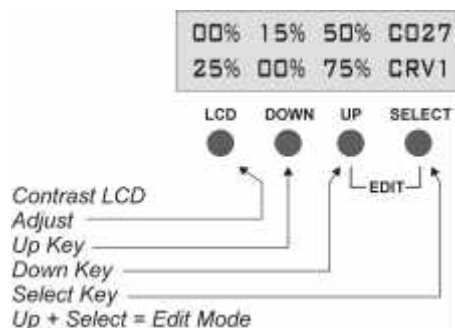

Fig.1
Fig.1 (representing a 6 channel unit: LTB62 or LTB63 – LTB35 should have a similar display but information will regard only to 3 channels) shows how control panel looks like, when in normal display, and after receiving DMX data for channels 27 to 32. “C027” (right side, upper corner), indicates that selected DMX channel is 27, and “CRV1” (right side, lower corner), indicates the unit has dimming curve 1 pre-set.
- If we want to select DMX channel 27 (following fig.1 example), this digit should be "0". In that case we should follow to "tens" digit, touching **SELECT** key once. "Tens" digit will blink: **C001**. Touching two times **UP** key, number **2** will appear.